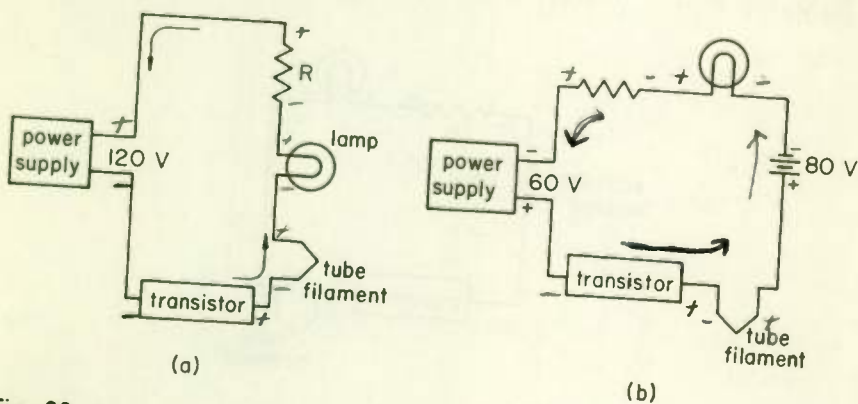

Fig. 38
7. The current direction in Fig. 38(a) is as shown. Mark on the drawing the polarity of the power supply and the polarity of each of the passive components. In Fig. 38(b) determine the current direction and mark it on the drawing, and also mark the polarity of the voltage across each of the passive components.